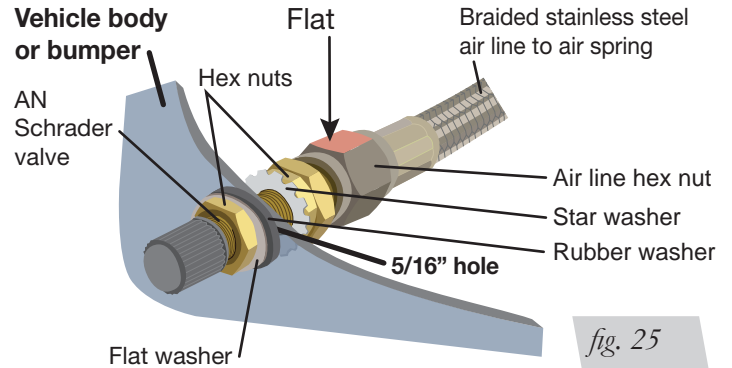

fig. 25
2. Tighten the air line hex nut finger tight, then use 2 wrenches to turn 1 additional flat (1/6 of one full turn). **Do not overtighten** (Figs. 25 or 26). The easiest way to tighten the fitting is off the vehicle. Install the Schrader valve in the chosen location.